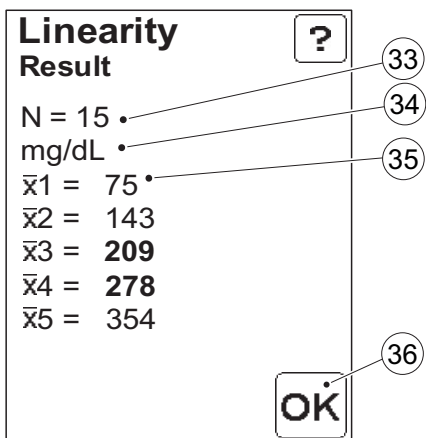

FIGURE 6-26
w) Press the Confirm button (32). FIGURE 6-26 will be displayed.